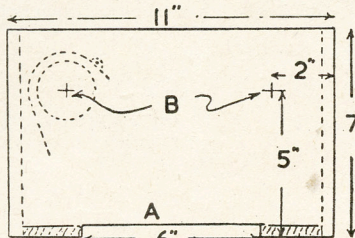

Fig. 1—Detail of box sides
The case is made of wood. The sides are shown at Fig. 1 and can be cut from $\frac{1}{2}$ in. plywood or fretwood. At the bottom, a strip $\frac{3}{4}$ in. wide is sawn out, as at (A) for the carrier to enter. At about the spots shown at (B) small screw holes are bored to fix the mounts on which the two lamps will be fitted. An
Across the open bottom of the case, nail $\frac{1}{2}$ in. by $2\frac{1}{2}$ in. strips of wood, one each side of the carrier opening, shown by shaded lines in Fig. 1. The ventilation holes are shielded with bent strips of tin, as at (C) nailed over. These trap the light from escaping and at the same
Two tabs are allowed for, one each side, for fixing the reflectors inside the case. Bend the tinplate to about the curve shown in inset, then bend the tabs or part of them, to right angles, and screw the reflectors over the lamps at the position shown in Fig. 1. In this diagram only one reflector is shown, the second one is opposite, of course.